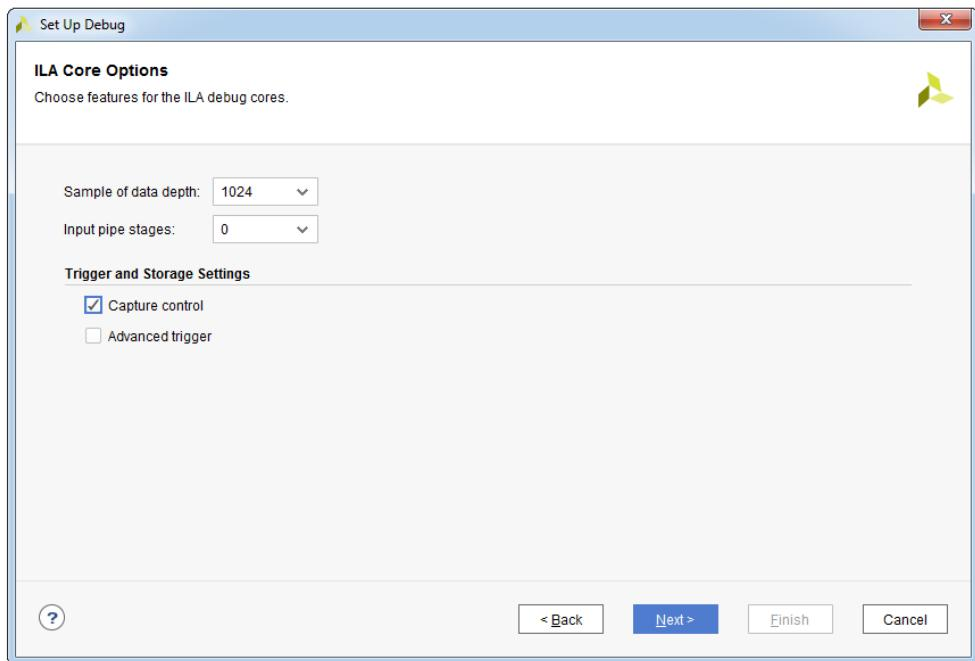

Figure 11.28: ILA Core Options dialog box
28. In the **ILA Core Options** dialog box, enable **Capture control** option, leave all parameters unchanged and click **Next**, see Figure 11.28.